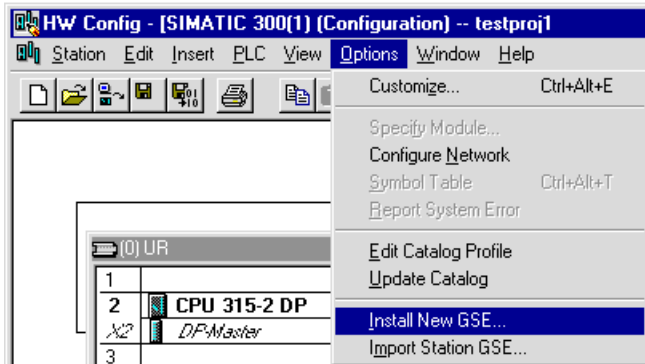

Figure 2.6 Installing a new GSD
- Select X2 “DP-Master” in the subrack (see Figure 2.6 in the “(0)UR” subrack).